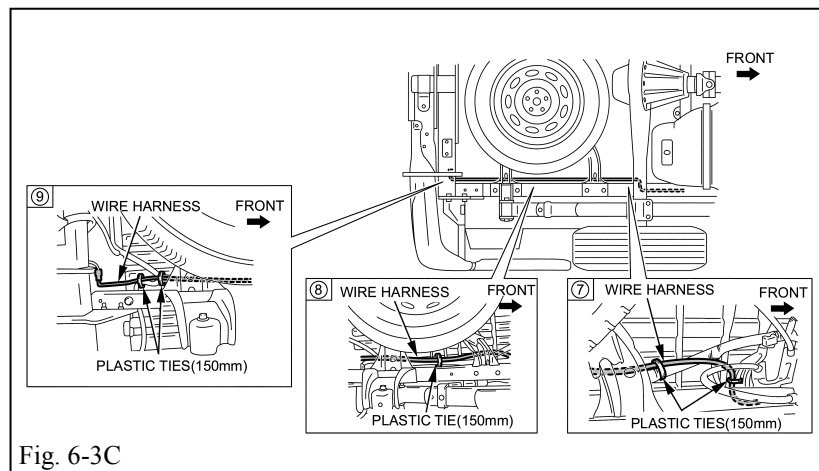

Fig. 6-3C
- Fix the wire harness so that it does not interfere with the brake line, fuel line, and others. (Fig. 6-3C)